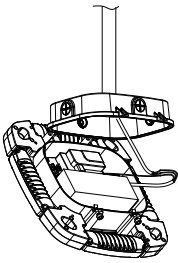

Figure 1-5
5. Connect ground/L/N wire inside driver rear cover. Take waterproof measures after wiring. Figure 1-5